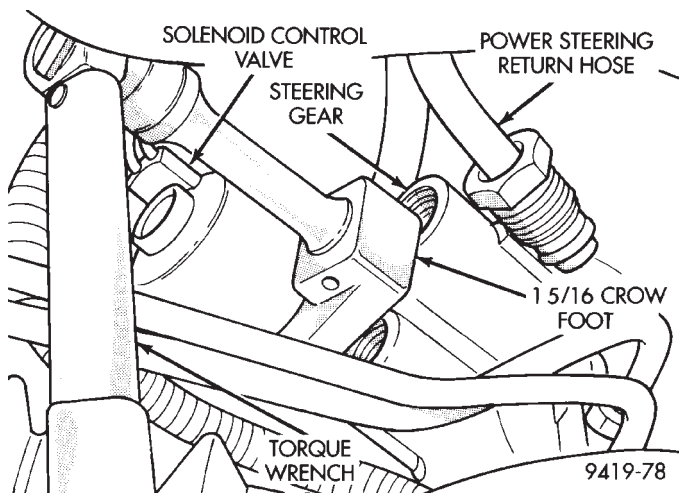

Fig. 5 Torquing Solenoid Control Valve
- (1) Inspect the O-ring seals on the solenoid control valve to be sure they are not damaged. If the O-rings are not damaged, moisten the O-rings using **only fresh clean Mopar Power Steering Fluid, or equivalent**.
- (2) Install the solenoid control valve into the steering gear by hand, until it is fully seated into the steering gear.
- (3) Using the 1-5/16 inch crow foot as shown in (Fig. 5) tighten the solenoid control valve to a torque of 14 N·m (124 in. lbs.).